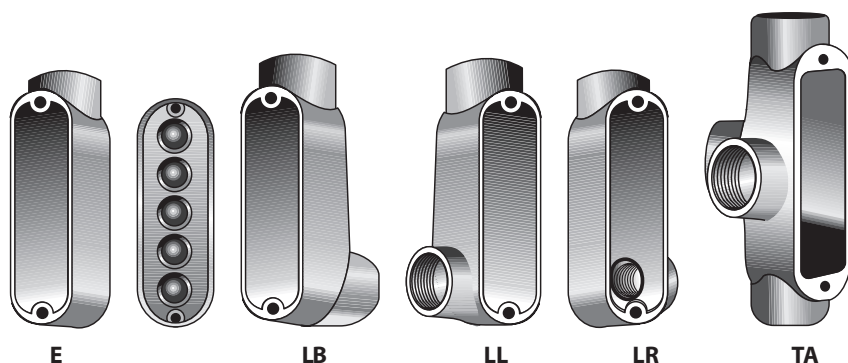
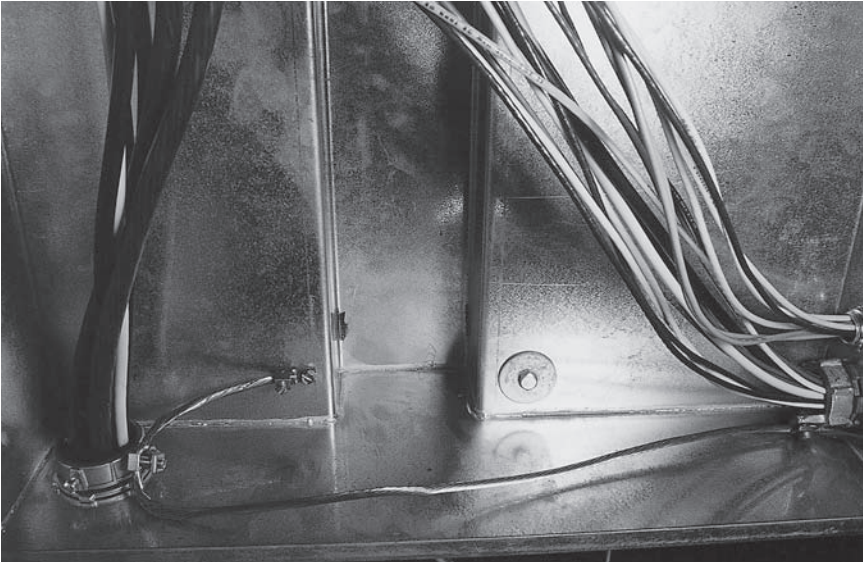

Fig. 27-1 For exposed runs of conduit, fittings of the type shown here are commonly used. There are dozens of different shapes or types.
Fig. 27-11 Metal grounding bushing with insulated throat and terminal for bonding jumper.
For exposed runs of conduit, ordinary outlet boxes may be used, but cast conduit fittings of the type shown in Fig. 27-1 are sturdier, neater, and more frequently
A few of the more common types are shown in Fig. 27-1. While the illustration shows only one cover, naturally you must install a cover on each fitting after the installation is completed. Type E with the cover at its right is used at the end of a run to some types of motors, transformers, or similar equipment not having provisions for a conduit connection. The other fittings shown avoid awkward bends in conduit. Type LB is commonly used where conduit must run through a wall or ceiling; it is equally useful in going around a beam or similar obstruction. Types LL and LR are handy for 90-degree turns where the mounting structure is not suitable for an LB. However, the wires are more difficult to feed into an LL or LR than into an LB. There are very many kinds of combinations, some as complicated as the Type TA with four openings, which obviously is not used very often; Type T is similar but has only three openings, without the opening in the back or bottom side (not bottom end) of it.
- There must always be two or more conduits used for support. A box on the end of a single conduit can work loose and twist off. Two or more conduits make that impossible. The only exception is the Type E conduit body shown in Fig. 27-1. Aside from the obvious impossibility of arranging a double entry to a fitting with only one entry, Type E conduit bodies aren't much wider than their supporting conduits. If they are installed wrenchtight as required, they are unlikely to loosen because any impact on their edges provides very little torque.
Junction and pull boxes Wires of the smaller sizes are sufficiently flexible to be readily pulled into conduit. If the runs are long, boxes of the type described in Chapter 10 as well as the conduit fittings shown in Figs. 27-1 and 27-2 may (within their capacity limits) be installed as pull boxes. All boxes must be installed where they will be permanently accessible without damaging the structure of the building.
Deflection of wires If wires are bent sharply and press against a protruding surface (as that of a conduit bushing) where they emerge from a conduit, the insulation might be damaged and ground faults might develop. This is especially true of larger wires because of their weight and increased stiffness during the pulling-in process. *NEC* 300.4(G) requires an insulating bushing (or the equivalent) where 4 AWG or larger wires enter or leave the conduit, such as at a box, cabinet, or similar enclosure. (The design of a conduit fitting such as those shown in Figs. 27-1 or 27-2, or a threaded hub in a box, eliminates the need for this extra protection.) A metal conduit bushing with an insulated throat (molded insulating material on the inside) is shown in Fig. 27-11. Such bushings are also available with a terminal for a bonding jumper, as shown in the same illustration. A bonding jumper is a commonly used means of assuring the required grounding continuity between a service conduit and the service equipment cabinet, or in cases of higher voltages to ground (discussed later in this chapter).
Continuity of ground Preceding chapters show how the various runs of conduit or armored cable tie outlet boxes or other equipment into one continuously grounded system. However, if the voltage of one or more of the wires in a feeder or branch circuit is above 250 volts to ground, *NEC* 250.97 requires special bonding means. One approach is to use any of the methods for services, such as grounding bushings (see Fig. 27-11) or threaded hubs. See also the top and bottom of Fig. 16-13, which shows both of these common approaches used in order to comply with this rule.